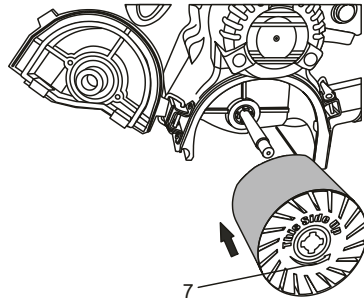

Fig. 4
6. Slide the roller onto the roller shaft (Fig. 4).